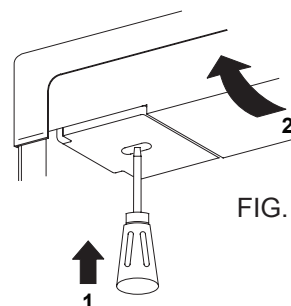

FIG. 8
- b) Carefully tilt the top decoration panel and lift up to remove from top frame, see fig. 8.